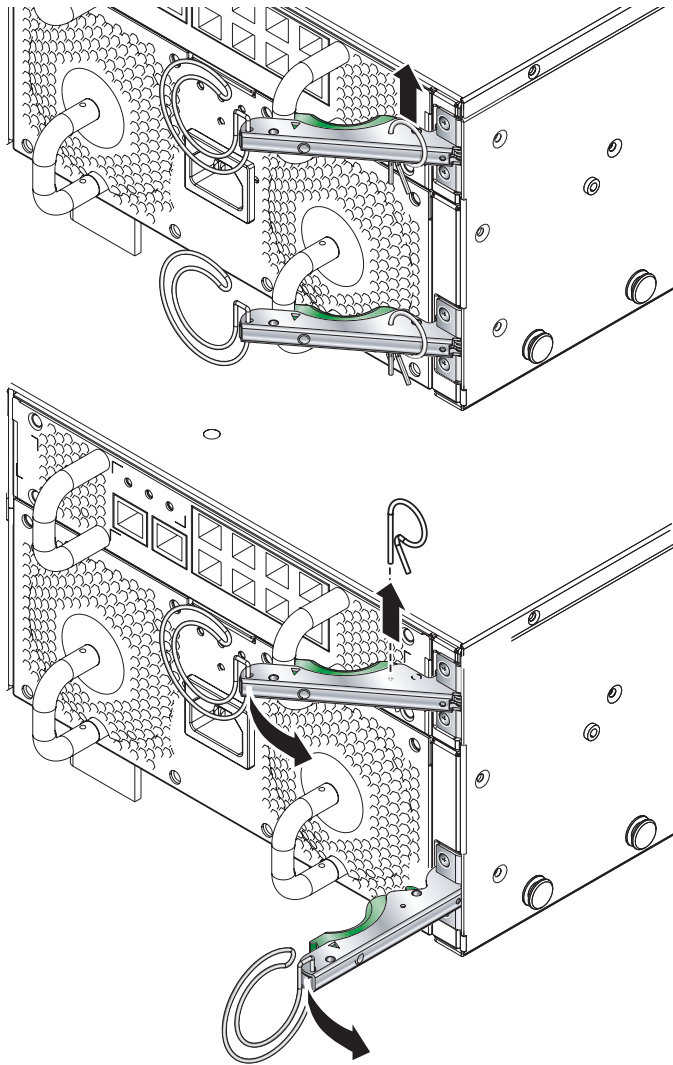

FIGURE 3-9 Removing the Module Retaining Pins
2. Remove the module retaining pins (FIGURE 3-9).